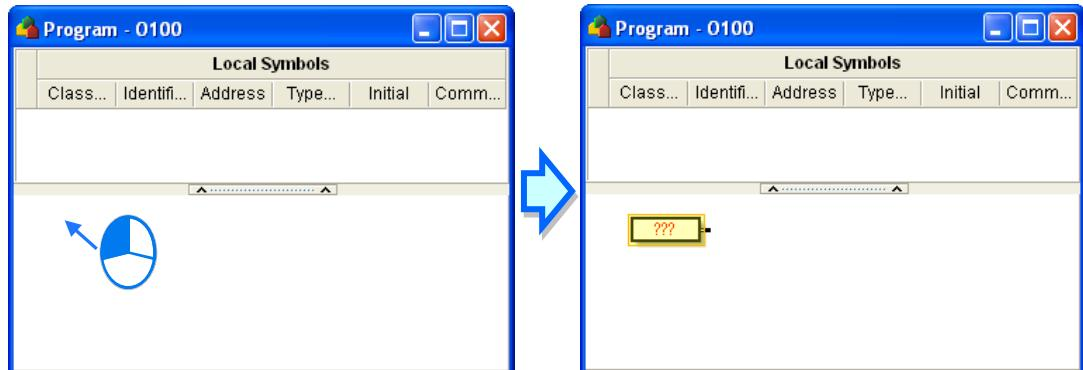

Figure 12-11 Inserting an object
- (2) After the users click a position in the program editing area, an object will be inserted, as shown in figure 12-11.